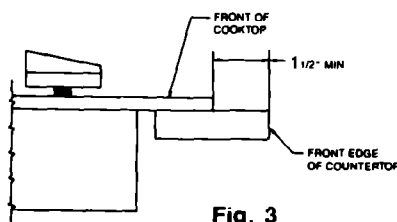

Fig. 3
**IMPORTANT NOTE:** In order to comply with UL safety standards the front edge of the cooktop must be a minimum of 1-1/2" from the front edge of the countertop. See Figure 3.